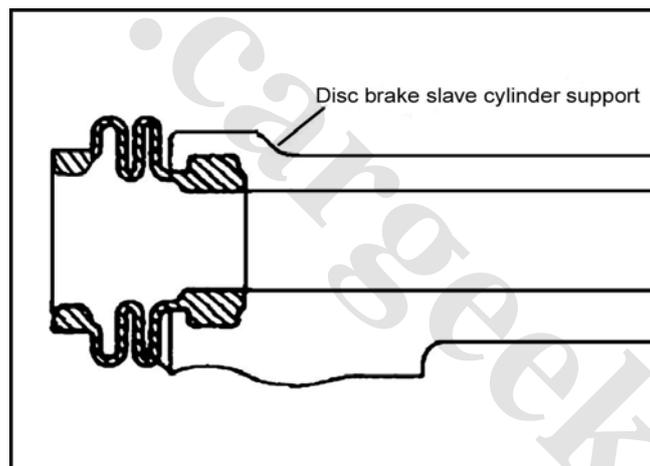

Fig. 2-63
① Dismantle the brake pad with 2 silencer pads.
② Dismantle No. 1 and No. 2 silencer pad from each brake pad.
7) Dismantle the dustproof cover of the rear brake sliding pin. Remove the 2 dustproof covers from the support of the rear disc brake slave cylinder. See Fig. 2-63.